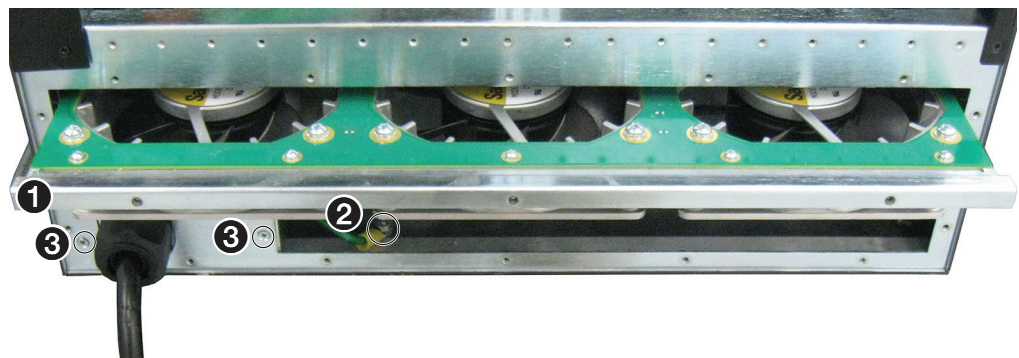

Figure 43. Remove Fan Assembly, Ground Stud, and Power Distribution Box
3. Pull the fan assembly out of the cabinet (see figure 43, **1**).
4. Remove and retain the nut securing the ground strap to the chassis ground stud (see figure 43, **2**). Remove the ground strap.